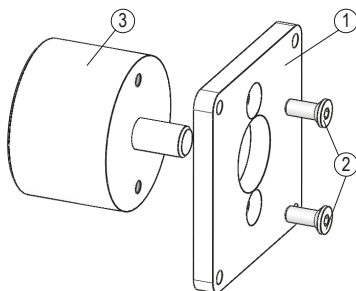
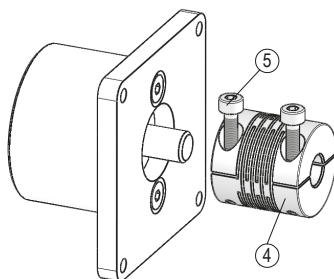
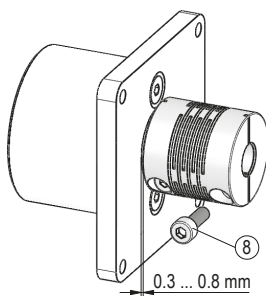
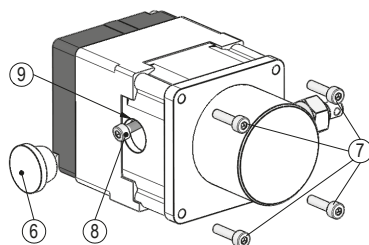

Fig. 7: Mounting flange/encoder
Fig. 8: Mounting coupling
Fig. 9: Distance flange/coupling
Fig. 10: Mounting of encoder/flange/coupling with the SG21
Mounting (Fig. 7, Fig. 8, Fig. 9, Fig. 10):**CAUTION****Failure of the self-aligning coupling**
1. Mount the flange ZB4002 (1) (see chapter 7.3) with the counter sunk screws (2) to the encoder (3).
2. Slide the compensating coupling (4) onto the encoder shaft and fix it with the cylinder head screw (5).
3. Pay attention to the distance flange/coupling (see Fig. 9)!
4. Open the sealing plug (6).
5. Tighten the self-aligning coupling (4) with the cylinder head screw (8).
6. Mount the encoder/flange/coupling with the cylinder head screw (7) to the wire actuated encoder.